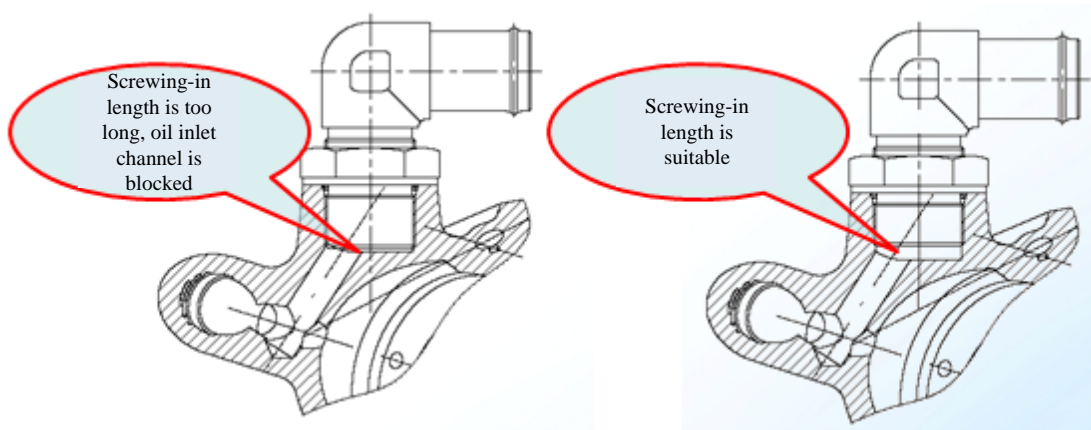
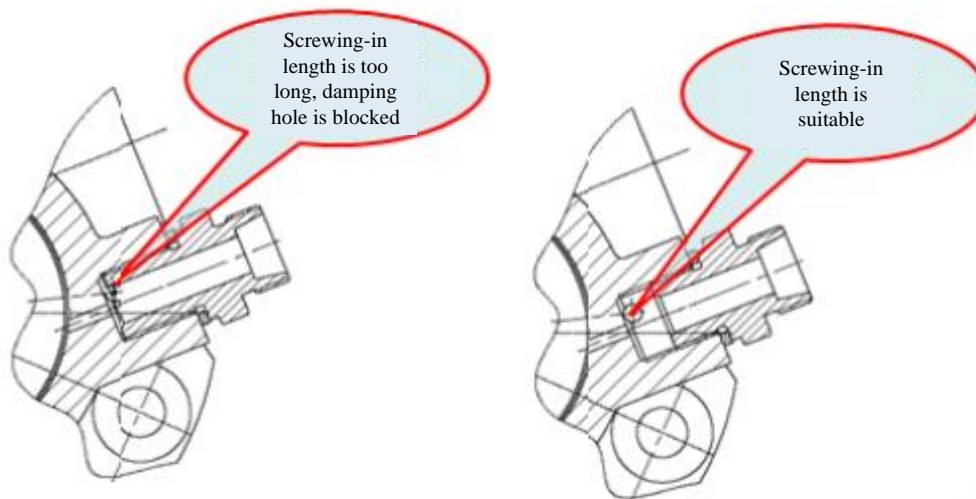

Fig. 4-94 Oil inlet joint screwing-in length is too long
Fig. 4-95 Oil outlet joint screwing-in length is too long
- (2) Two applicable connecting types of oil inlet and outlet joints: copper washer (or combination flat gasket) and O-shape ring. Thread seal tape or thread sealant is strictly prohibited.
- (3) Steering pump oil inlet and outlet joint screwing-in length should be suitable, neither too short nor too long. Refer to Fig. 4-94 and Fig. 4-95.